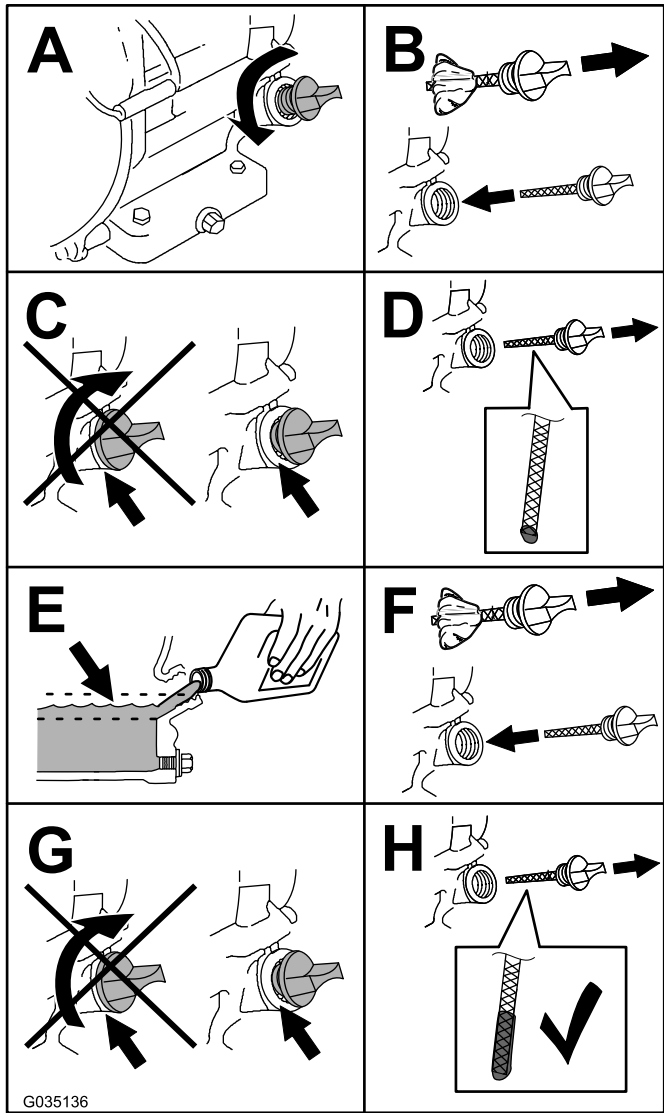

Figure 44
5. Check the oil level as shown in Figure 44.